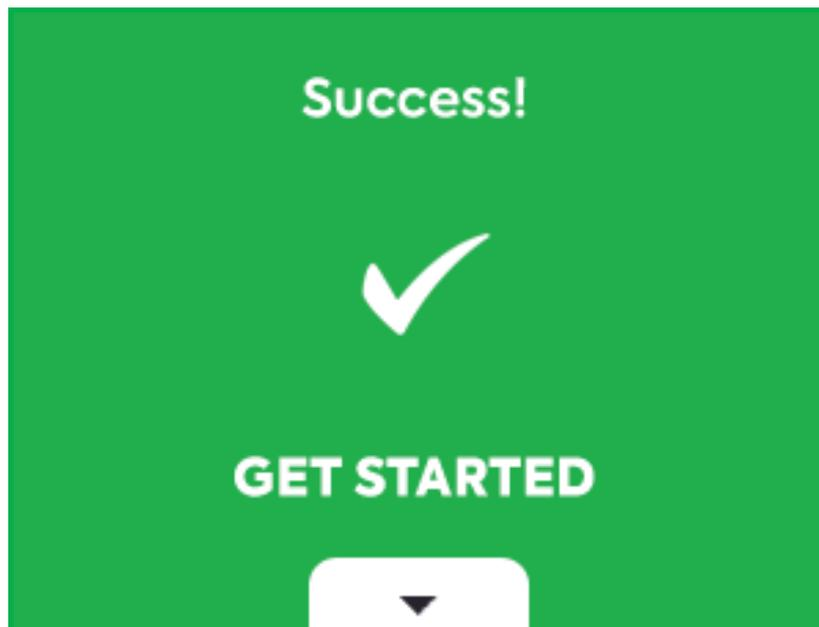

FIGURE 15
6. The console and controller are now successfully paired. (Figure 15)